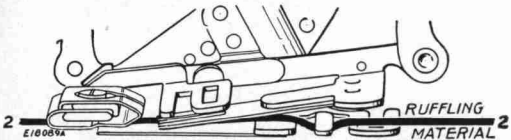

FIG. 70. CORRECT POSITION FOR THE MATERIAL
- (2) Insert the material to be plaited between the two blue blades **Line 2, Fig. 70**.